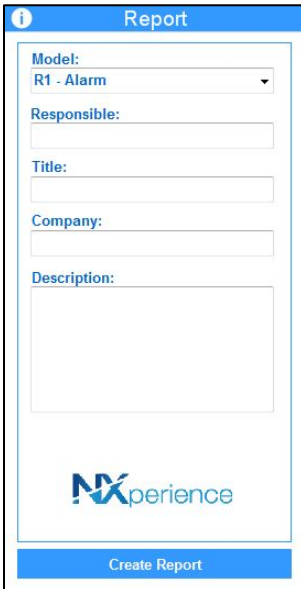

Fig. 30 – Reports
- After filling out the fields in **Fig. 30**, click the **Generate Report** button.
- After creating a report, all fields in **Fig. 30**, and the logo image, if selected, will be saved by the software.